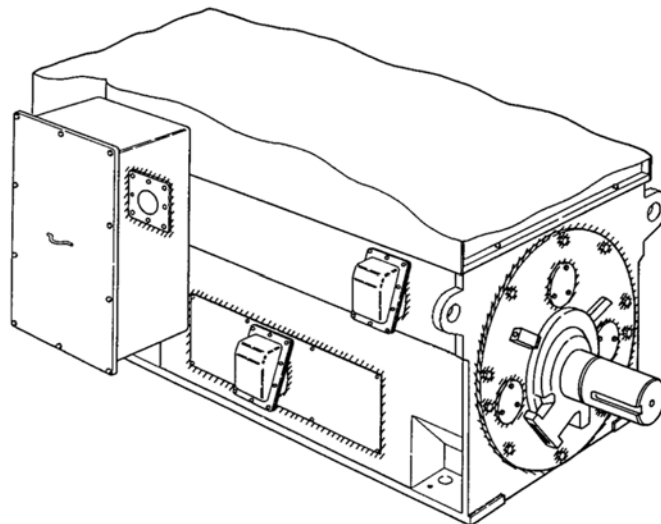

Fig.13-14 Sealant coating areas
- (8) For an outdoor motor, apply sealant after assembling the bearing area, as shown in Fig. 13-14.
In case of an outdoor type motor, after disassembling for periodical overhauling, be sure to coat sealant on the peripheral areas shown in Fig. 13-14.